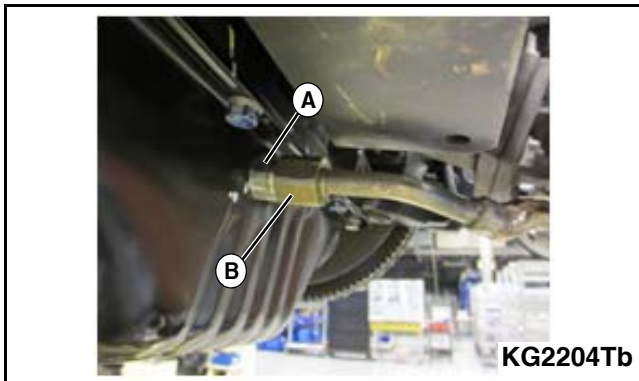

Figure 3-44
3. Using a wrench to hold the oil drain fitting in place, loosen and disconnect the nut (A) on the turbocharger oil drain line fitting (B). Pull the turbocharger oil drain line away from the fitting. **See Figure 3-44.**